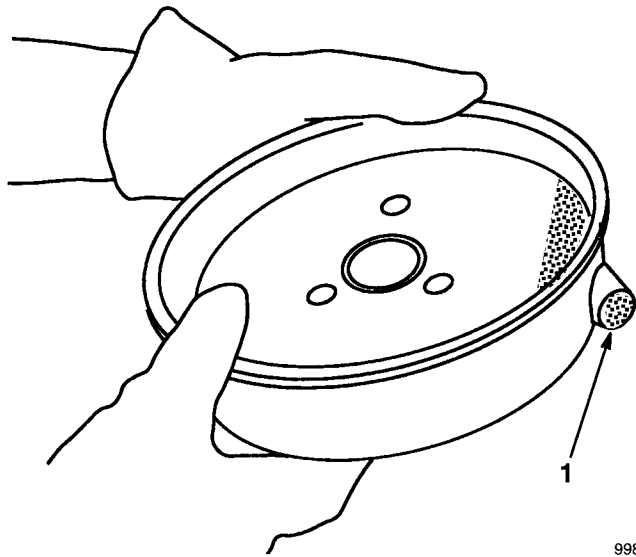

Figure 35
9. Clean carbon deposits from muffler and tube with wire brush and wood dowel (Fig. 35). Wipe muffler clean with paper towel or rag.